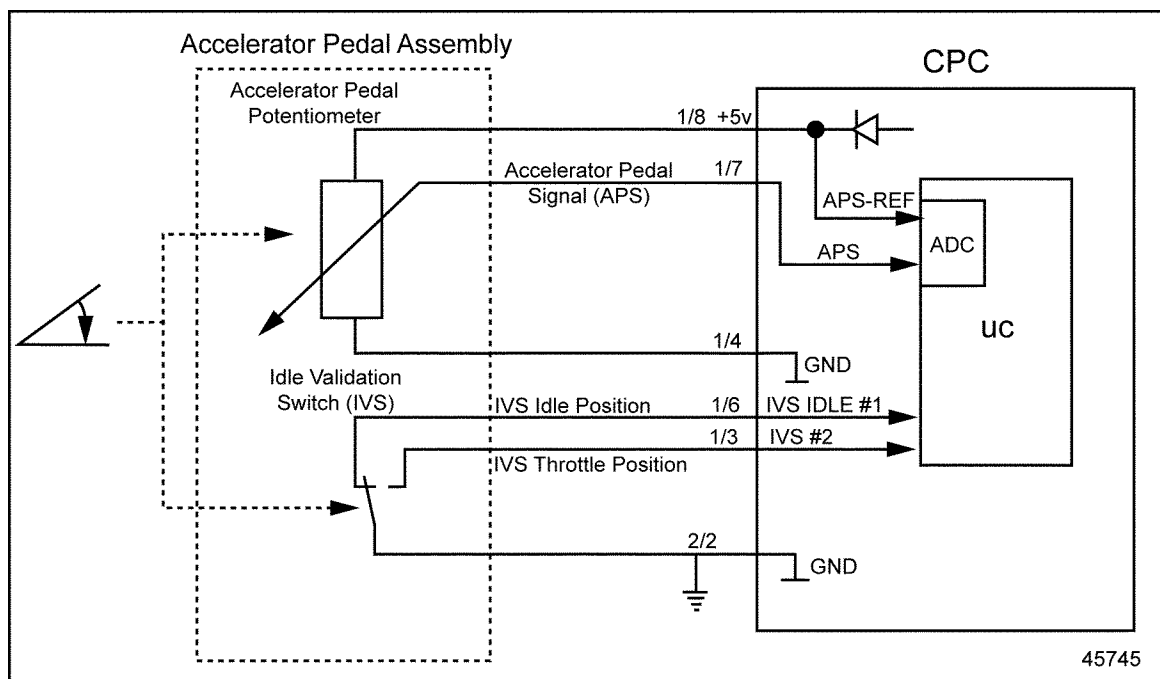

Figure 6-1 Accelerator Pedal Assembly Installation
1. Disconnect the Accelerator Pedal (AP).
- [a] If the voltage is between 4.5 and 5.5 volts, repair the open circuit between pin 3 of the AP harness connector and pin 4 of the CPC #1 connector. See Figure 6-1. Refer to section 6.1.1.1.
- [b] If the voltage is less than 4.5, repair the open circuit between pin 1 of the AP harness connector and pin 8 of the CPC #1 connector. See Figure 6-1. Refer to section 6.1.1.1.